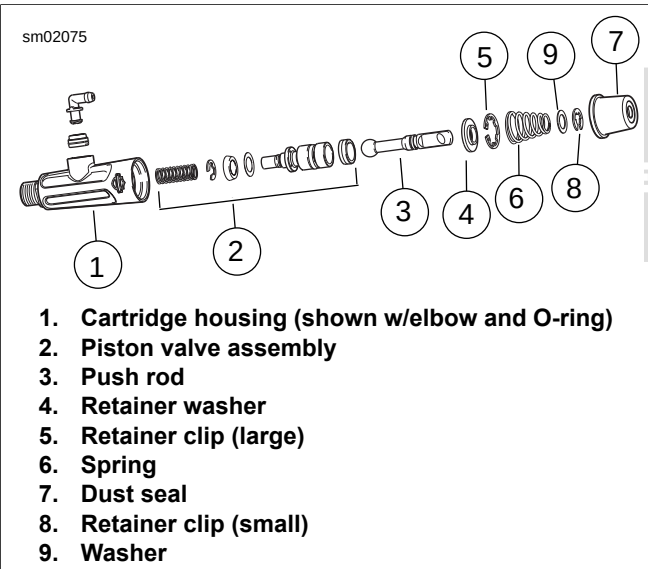

Figure 2-42. Master Cylinder Components
5. See Figure 2-42. Using hand pressure, push down on spring (6) and remove small retainer clip (8), washer (9) and remove spring.
6. Using hand pressure, push in push rod (3). Using a snap ring pliers, remove large retainer clip (5) and retainer washer (4).
7. Remove push rod (3).
8. Remove piston valve assembly (2) from cartridge housing (1).
1. See Figure 2-42. Lubricate inner bore of cartridge housing (1) with DOT 4 brake fluid.
2. Install **new** piston valve assembly (2) from service parts kit.